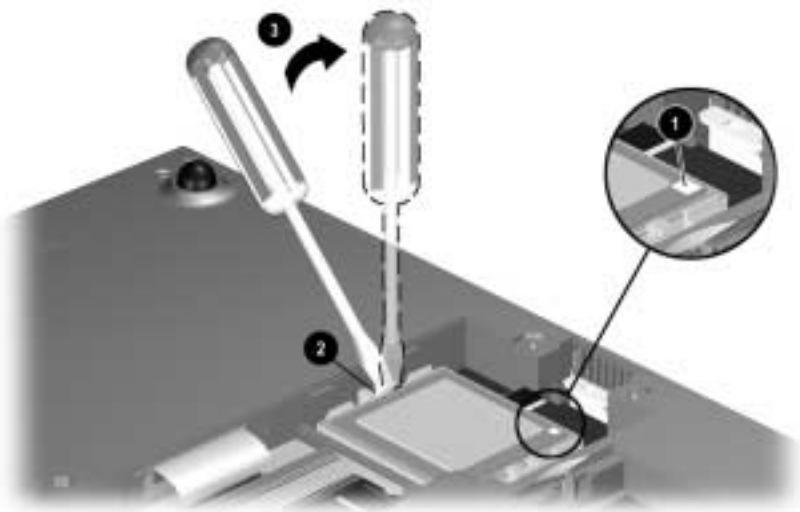

Figure 5-12. *Replacing the Processor*
When replacing the processor, make sure the white square is in the upper-right corner ❶. Insert the tip of the screwdriver into the right socket (marked “SKT CLOSE”) ❷ and swing the screwdriver to the right to seat the processor ❸ (Figure 5-12).